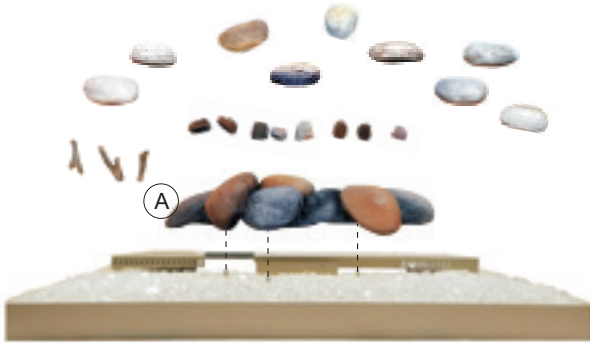

Figure 1
2. Place thin layer of crushed glass (sold separately) over the burner surface and cover as shown in **Figure 1**. One bag of crushed glass is sufficient on DVCC(32,36) models, and one and a half bags for DVCC42 models. Crushed glass may be anywhere on burner cover, modern cover, or burner except the rectangular ports and burner around the pilot. **See Figure 3**.